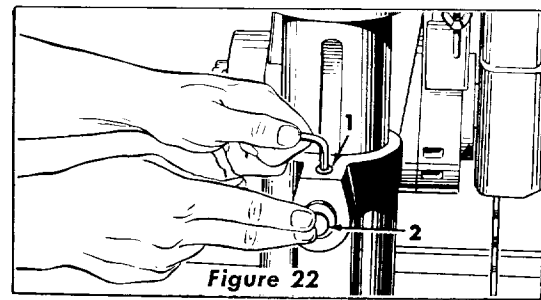

Figure 22
If excessive radial arm movement is noticed even though the arm is locked in position, check the fit of the column tube key (Item 2, figure 22) and the keyway in the column tube.
1. Adjust by loosening the socket set screw (Item 1, figure 22), using the 7/16 hex "L" wrench.
2. Press firmly against the rear of the column tube key (Item 2, figure 22) and slightly rock the radial arm back and forth. This causes the key to seat properly in the keyway.
3. Tighten the set screw (Item 1, figure 22) securely.